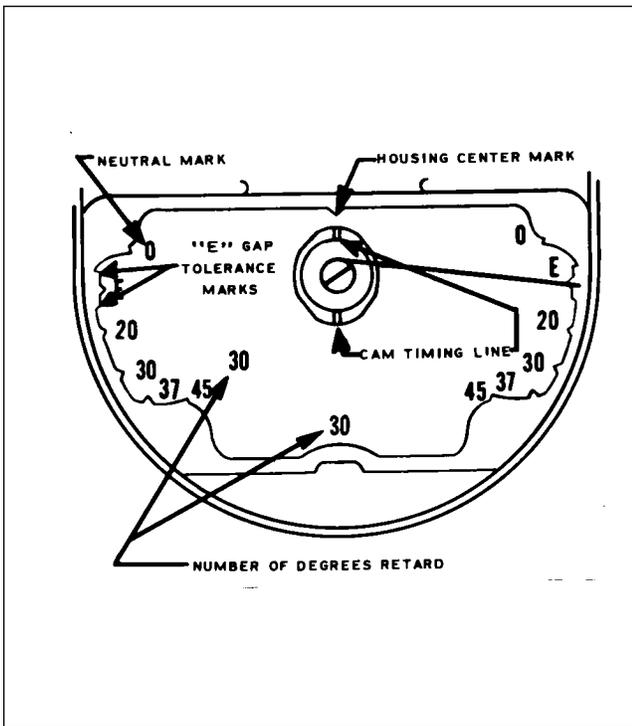

Figure 74-8. Cast-In Timing Marks
2. The internal timing can be checked without a timing kit using the cast-in marks in the breaker compartment. These marks indicate "E" gap and limits (refer to Figure 74-8). The point in the center of the "E" gap boss indicates the exact "E" gap position. The width of the boss on either side of the point is the allowable tolerance of  $\pm 4^\circ$ . In addition to these marks, the cam has an indented line across its end. When the indented line is aligned with the mark at the top of the breaker housing, the rotating magnet is in its "E" gap position. Check the timing using the following procedure:
- B. Turn rotating magnet in direction of rotation until painted chamfered tooth of distributor gear is just becoming visible in timing window. Continue turning rotating magnet until line on end of cam is aligned with mark at top of breaker housing. (Refer to Figure 74-8.) Tighten adjusting knob of the holding tool to hold rotating magnet.